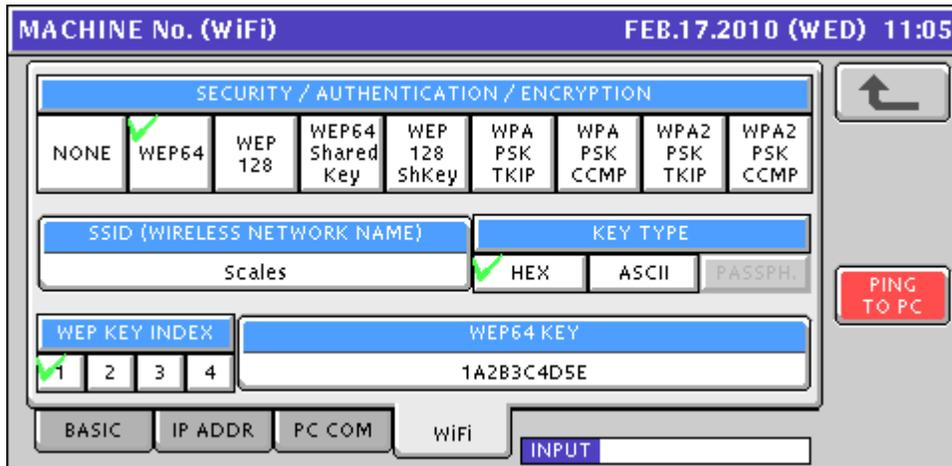

Figure 5.6. Confirm Complete WiFi Settings before Exit and Save
18. Wireless settings are now complete. See Figure 5.6.